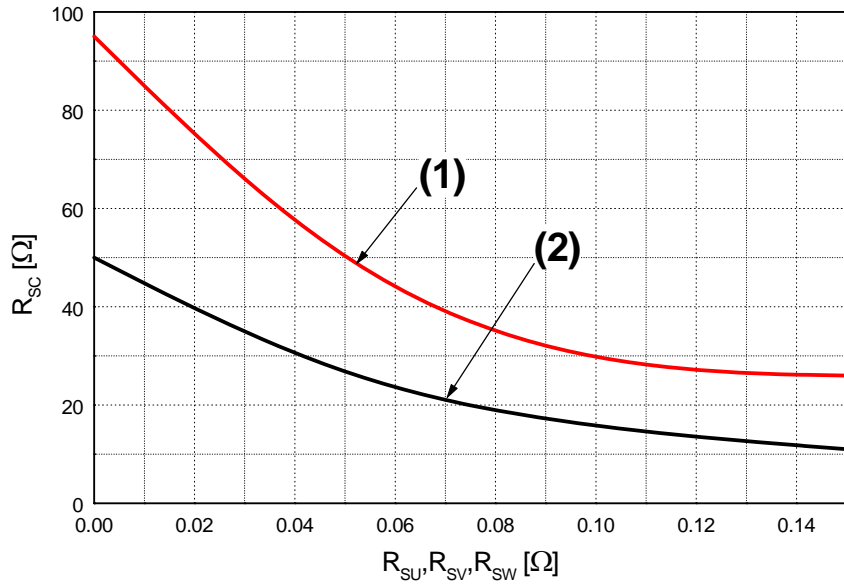

Figure 6. R_{sc} Variation by Change of Shunt Resistors (R_{SU} , R_{SV} , R_{SW}) for Short-Circuit Protection
- Short-circuit protection is functioning only at the low-sides. It would be recommended that the value of the external sensing resistor (R_{SC}) should be selected around 50 Ω in order to make the SC trip-level of about 15A. at the shunt resistors (R_{SU}, R_{SV}, R_{SW}) of 0 Ω. For the detailed information about the relationship between the external sensing resistor (R_{SC}) and the shunt resistors (R_{SU}, R_{SV}, R_{SW}), please see Figure 6.